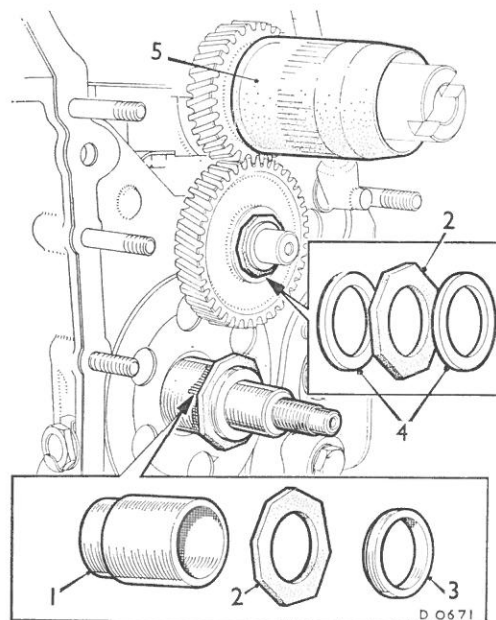

Fig. Aa.14
- (25) Fit Service tool adaptor 18G 1089 A over the input shaft. Use Service tool 18G 1089/1 to cut a dental wax washer, and fit the wax washer with Service tool 18G 1089/1 over the input shaft (see Fig. Aa.14).
- (26) Screw the two pilot bars of Service tool 18G 1043 into the two bottom tapped holes in the crankcase. Fit the nylon protector sleeve, Service tool 18G 1098, over the converter output gear.